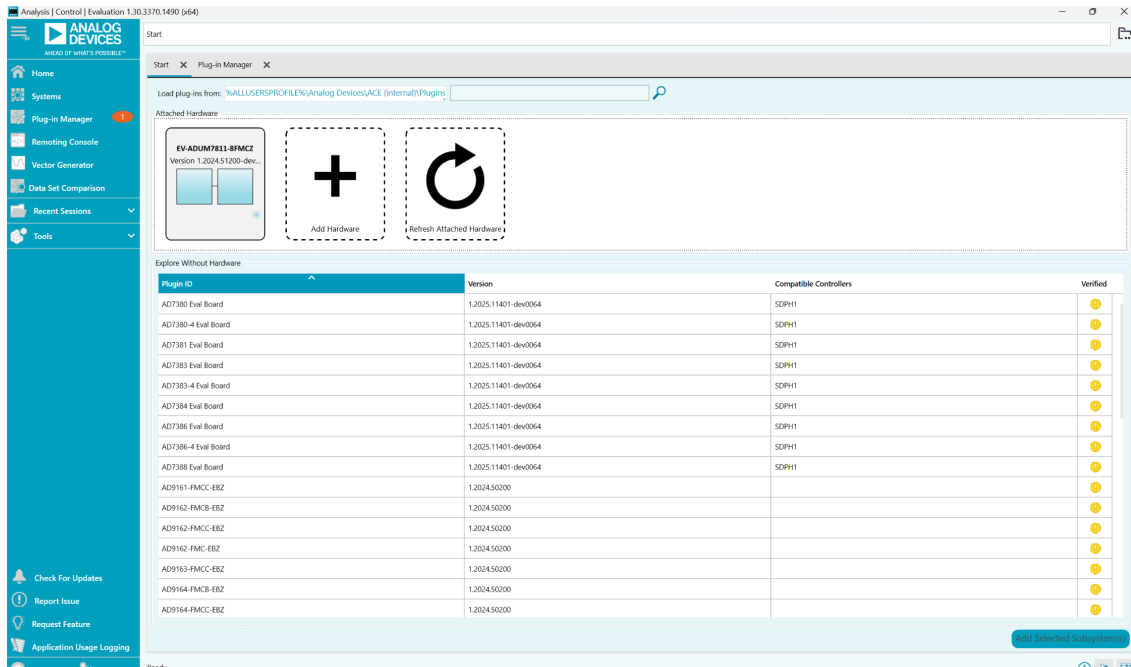
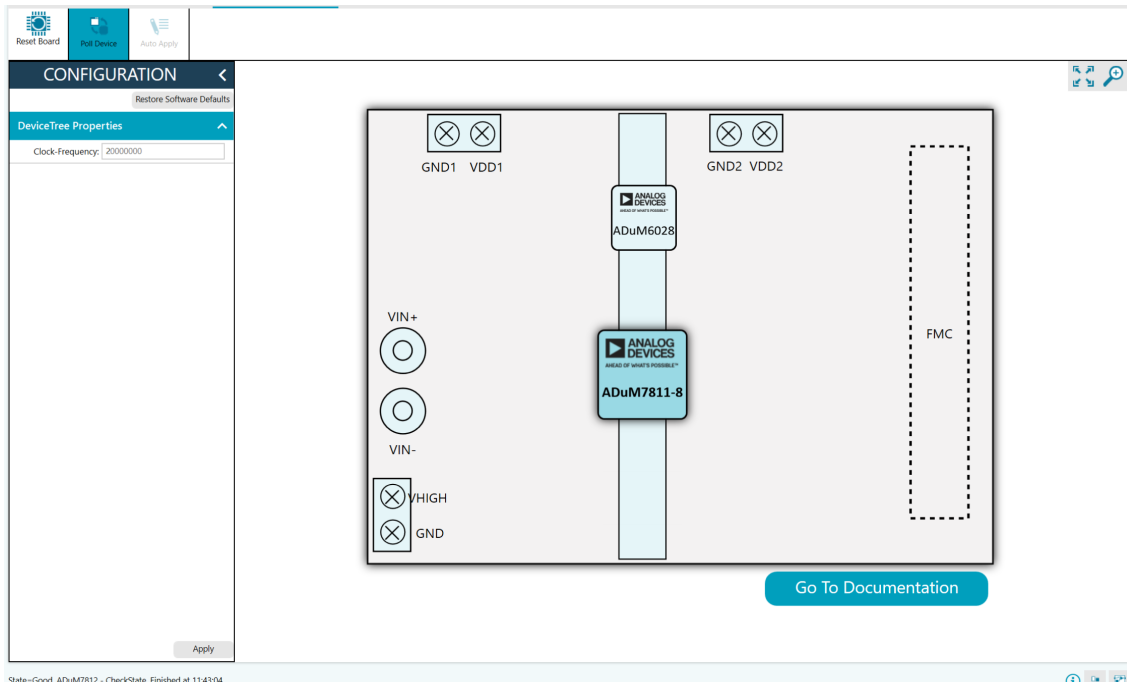

Figure 13. ACE Software Main Window
Figure 14. Chip View Window
1. In the **Start** menu of the PC, click **All Programs > Analog Devices > ACE > ACE.exe** to open the ACE software main window, as shown in Figure 13.
port by the ZedBoard when the ACE software launches, the **ADuM7811 Eval Board** icon does not appear in the **Attached Hardware** section in ACE (see Figure 13). To make the **ADuM7811 Eval Board** icon appear, connect the EV-ADuM7811-8FMCZ and the ZedBoard to the USB port of the PC, wait for few seconds, and then follow the instructions in the dialog box that appears.
3. Double-click the **ADuM7811 Eval Board** icon (see Figure 13) to open the chip view window, as shown in Figure 14.
After selecting the required clock frequency (maximum clock frequency: 50MHz), double-click the ADuM7811 diagram in the chip view window of the ACE Software (see Figure 14) to open the